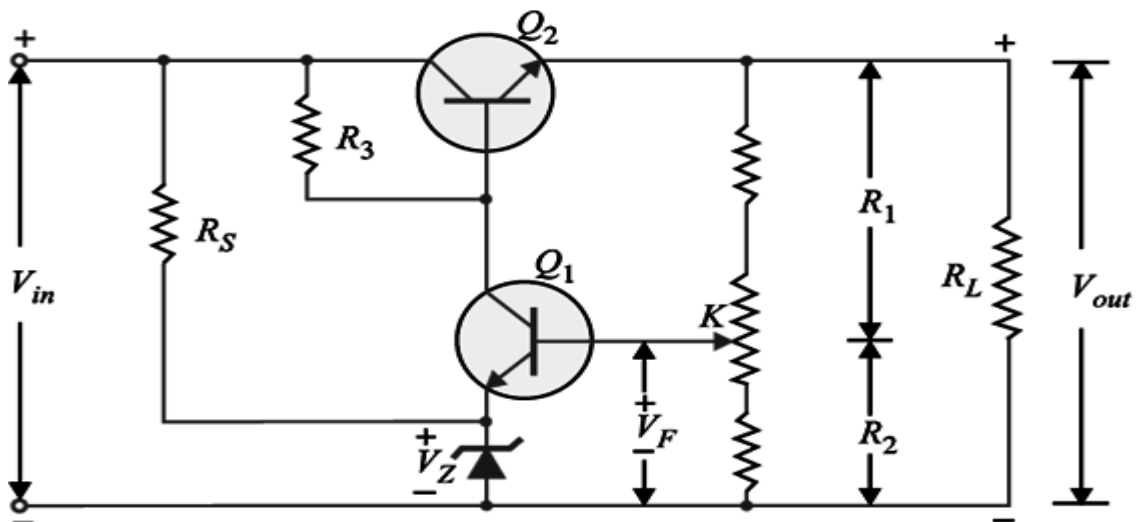

Figure 1: Transistor Series Voltage Regulator
1. Connect the electrical circuit as in Figure 1.